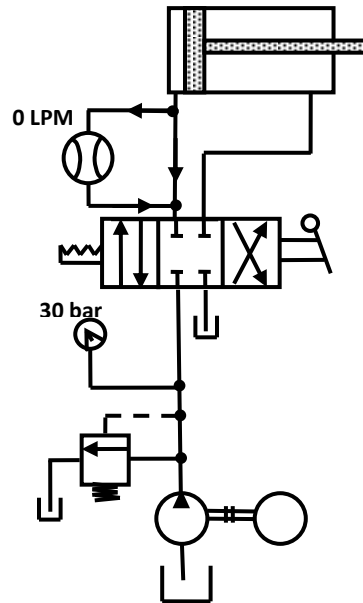

Figure 1.19 Application of 4/3-way valve – closed neutral.
3. Application of 4/3 DCV (closed neutral) for controlling a double-acting cylinder: Figure 1.19 shows it in a simple cylinder circuit. The valve shown here is spring centered, which means that it always returns to the neutral position automatically when not actuated. For closed neutral, the pump line is blocked so that the flow must pass over the pressure relief valve the pressure is at the system maximum. This is a wasteful thing because it generates power in the form of pressure and flow, but does not use it. The wasted energy in the system goes as heat. This is undesirable because the hydraulic fluid becomes thinner (less viscous) as it heats up. When the fluid becomes